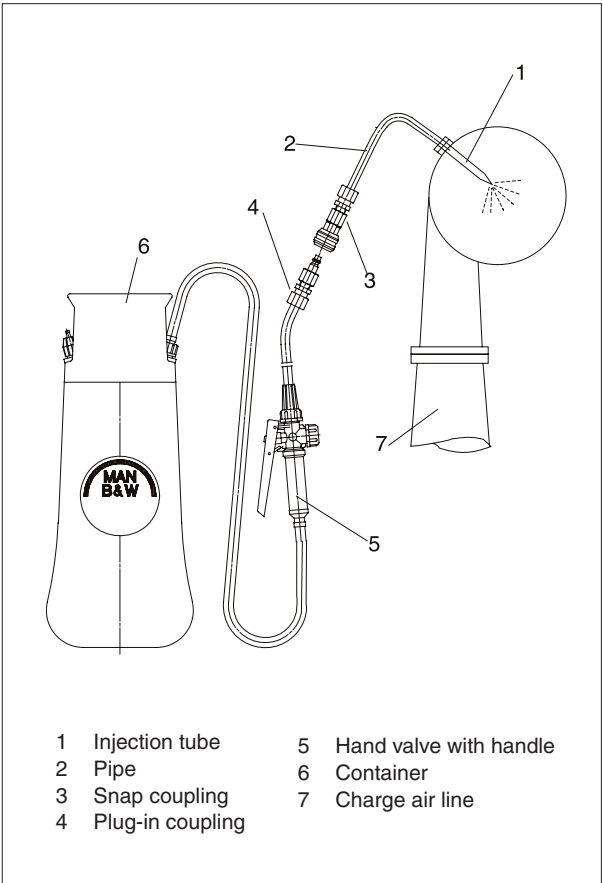

Fig 3
6) Connect the plug-in coupling of the lance to the snap coupling on the pipe (see fig 3).